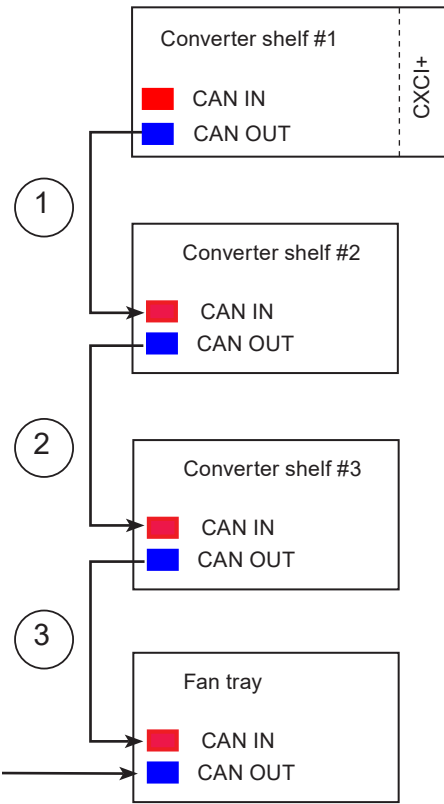

Figure 22 — CAN Bus cabling
1. Connect the daisy-chained CAN bus cable from the top shelf to the last shelf or fan tray. Figure 22 shows the wiring for three shelves and a fan tray.